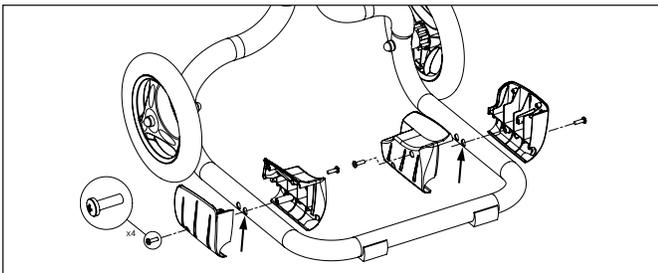

**Figure 9. Attaching Wheel Caps**
- Place two (2) caps on the wheels as shown in Figure 9.